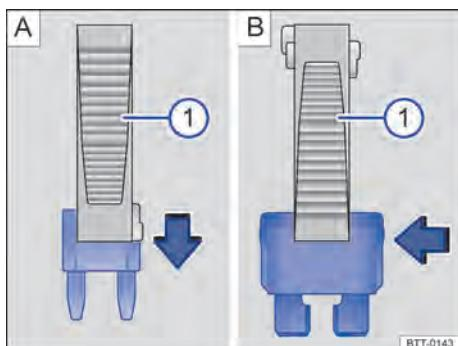

Fig. 182 Removing or fitting a fuse using the plastic pliers ①.
- If applicable, take the plastic tweezers → Fig. 182 ① out of the fuse box cover.
- For *small fuses*, push on the catch ① from above → Fig. 182 A.
- For *bigger fuses*, push the catch ① onto the fuse from the side → Fig. 182 B.
- If the fuse has blown, replace it with a new fuse of the *same* amp rating (same colour and same imprint) and *same size* → ①.